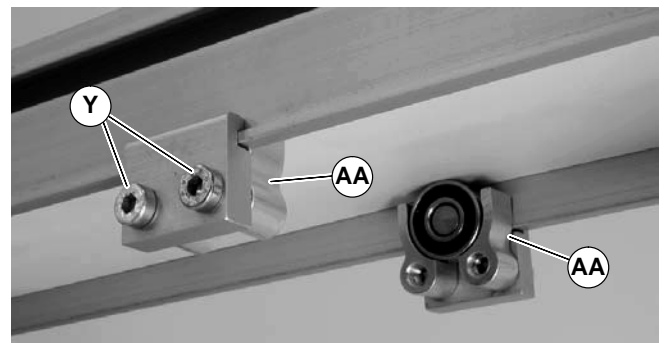

Figure 10
3. Install roller assemblies (AA of Figure 10) as shown. Tighten screws (Y) to 60 in-lb (7 Nm).